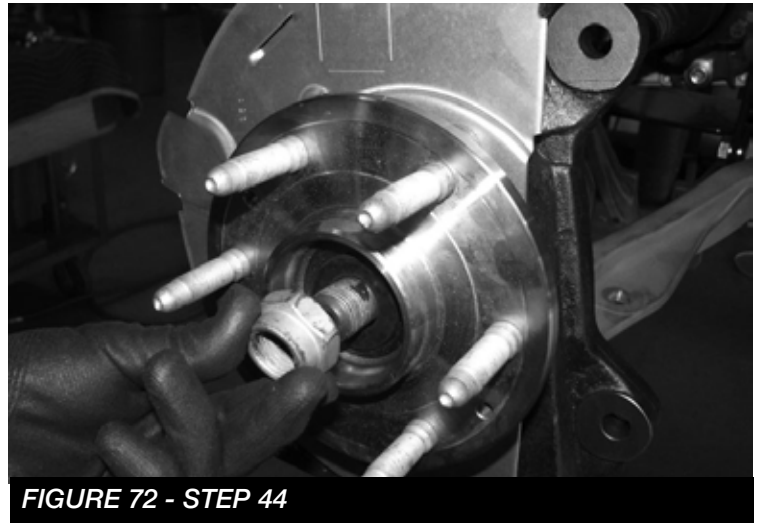

FIGURE 72 - STEP 44
44. Locate and install the factory hub assembly washer and nut using the provided thread lock. Torque to 150 ft-lbs **SEE FIGURE 72**